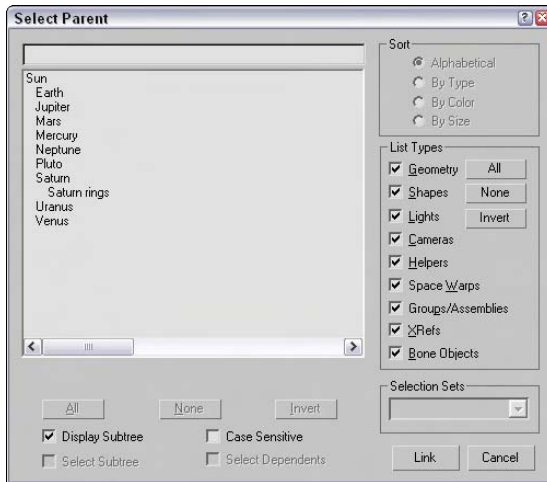

Figure 8-7: The Select Parent dialog box indents all child objects under their parent.
Clicking the Select by Name button (H) on the main toolbar opens the Select Objects dialog box; click the Display Subtree option to see all the children under the selected object. Figure 8-7 shows the Select Parent dialog box with the Display Subtree option selected.